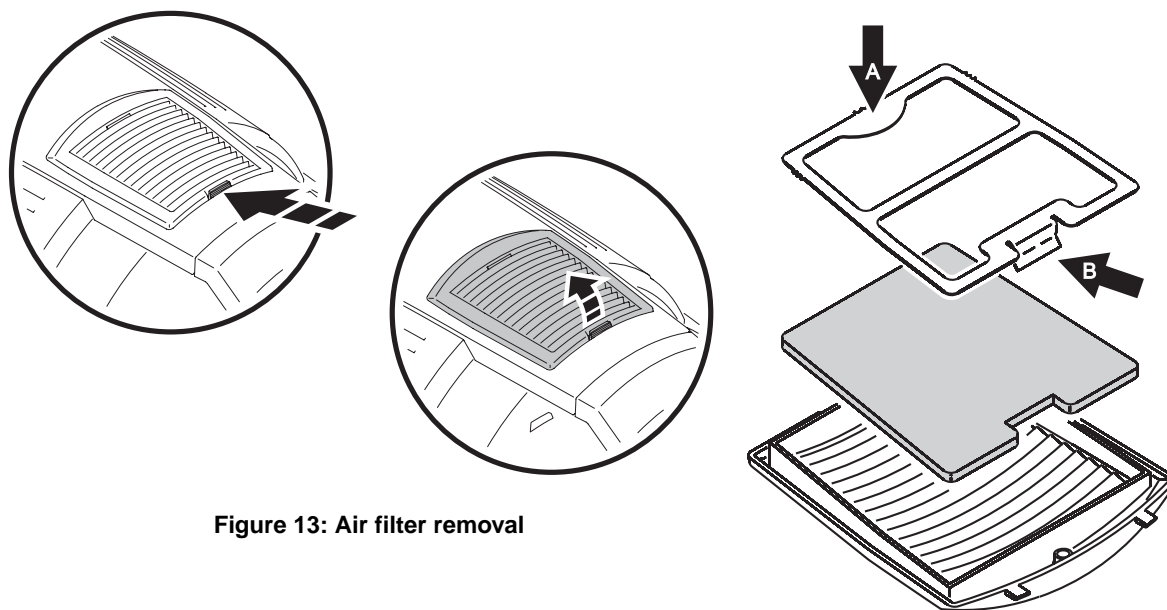

Figure 13: Air filter removal
1. See Figure 13. On each side of the head, push on the retaining tab to unclip and remove the 2 air filter covers.